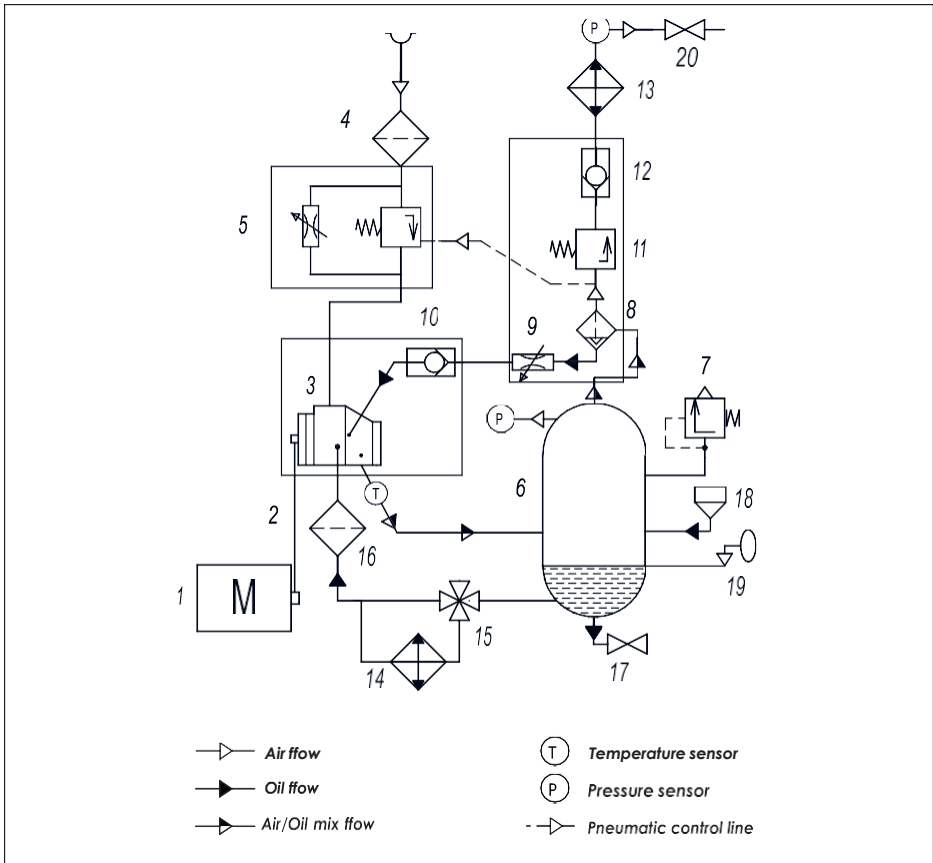

Fig. 2.3 Function diagram FV75-90
2.4 Functional description (see Fig. 2.3)